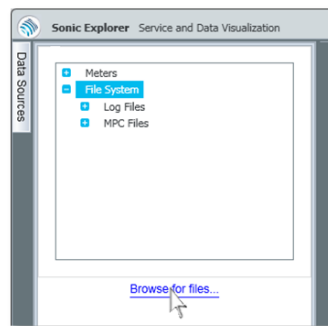

Figure 19-1 File system
- ▶ Click on: "Browse for files..." (see Figure 19-1).